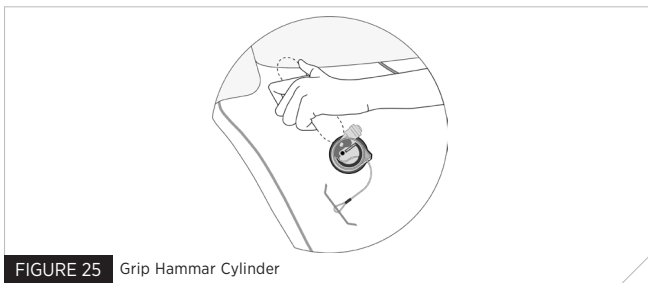

FIGURE 25 Grip Hammar Cylinder
2. Hold the CO₂ cylinder through the fabric, using one hand (Fig. 25).